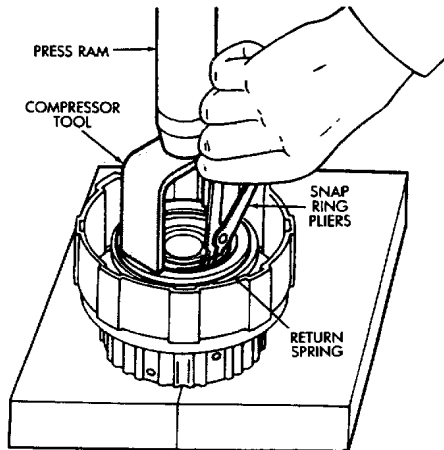

Fig. 7 Removing Piston Return Spring Snap Ring
(1) Lubricate and install replacement O-rings on clutch piston.
(2) Install clutch piston in drum and install return springs on piston.
(3) Compress piston return springs and install snap ring (Fig. 7). Be sure snap ring end gap is not aligned with spring retainer tab.